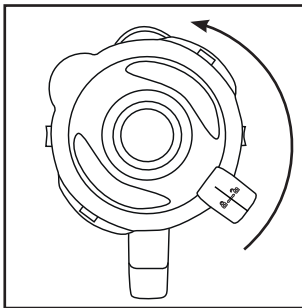

Fig. 1
- 2) Remove the lid **2** by rotating it anticlockwise towards position  (see Fig 1) until you can pull it upwards.